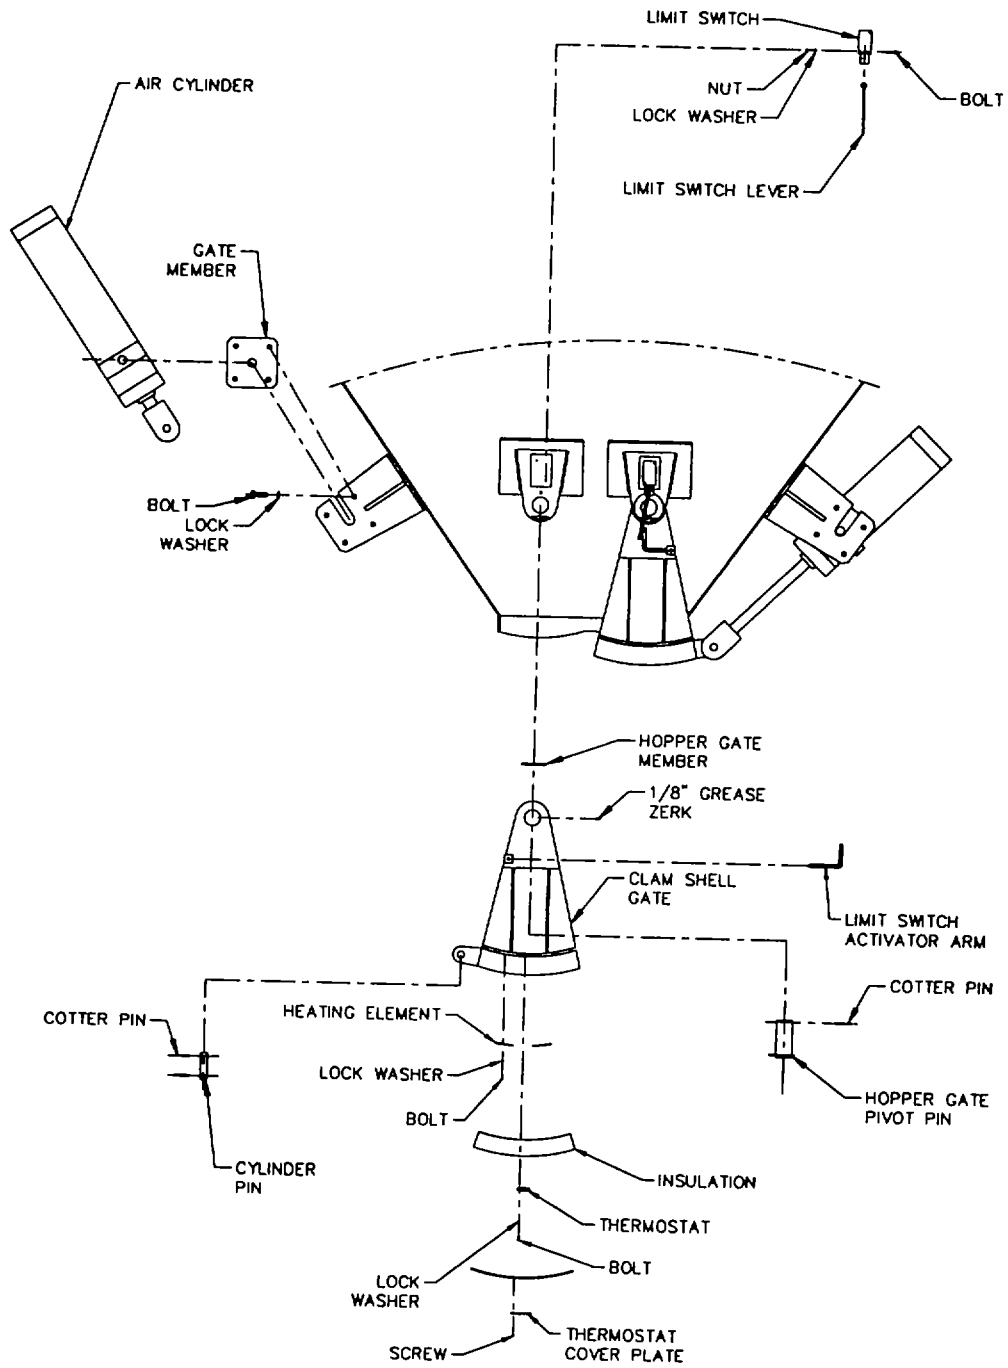

Figure 3-24. Bin Gates
**3-4-14 Bin Gates****Removal, Repair and Replacement. See figure 3-24.**